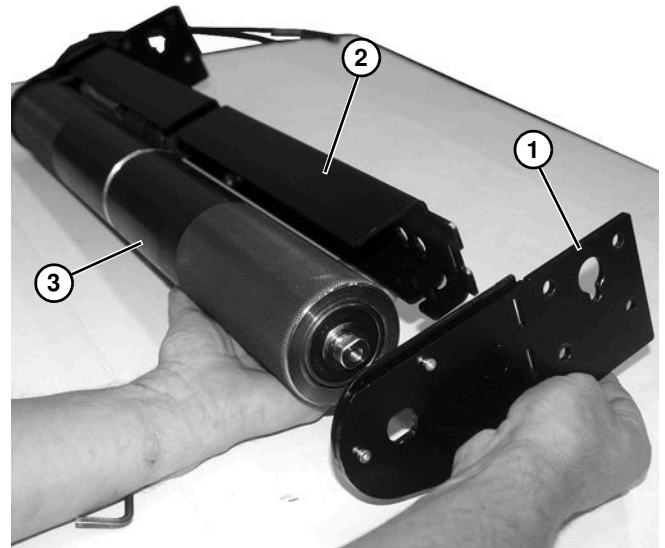

Figure 192
8. Remove cover plate (**Figure 192, item 1**) from crossmember (**Figure 192, item 2**) and spindle (**Figure 192, item 3**).